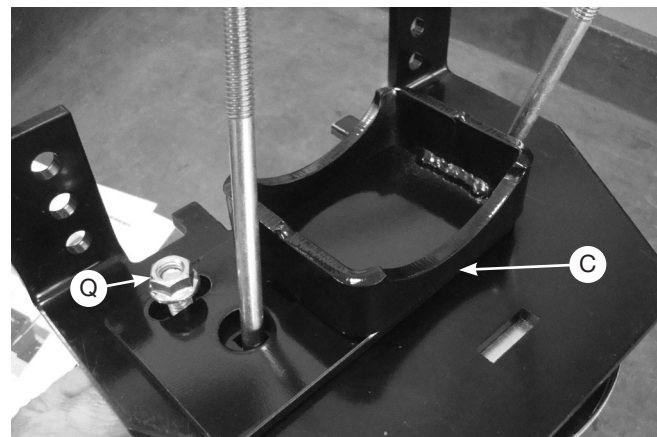

*Fig. 12*
5. Set the lower bracket main plate assemblies onto the air springs with the roll plates installed. Attach with the 3/8"-24 x 3/4" flat-head socket-cap screws (S) (Fig. 12). Torque the hardware to no more than 20 lb.-ft. (27Nm).